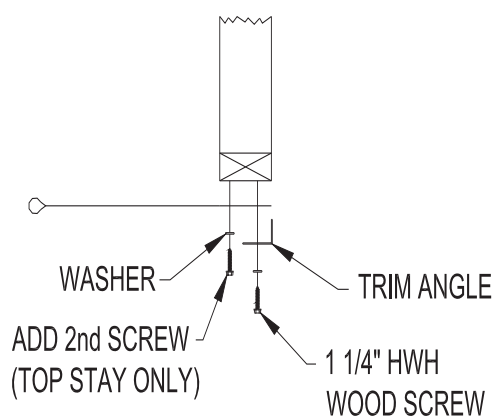

FIGURE 3
**Add a second screw through the upper-most "stay" to prevent sagging of side curtain. Locate as shown through center of "stay". See Figure 3.**